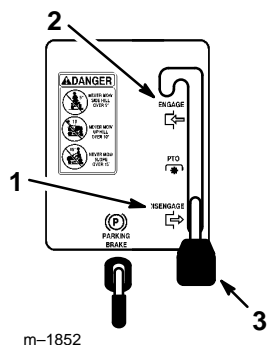

Figure 7
4. Move the blade control (PTO) to “DISENGAGED” (Fig. 7).